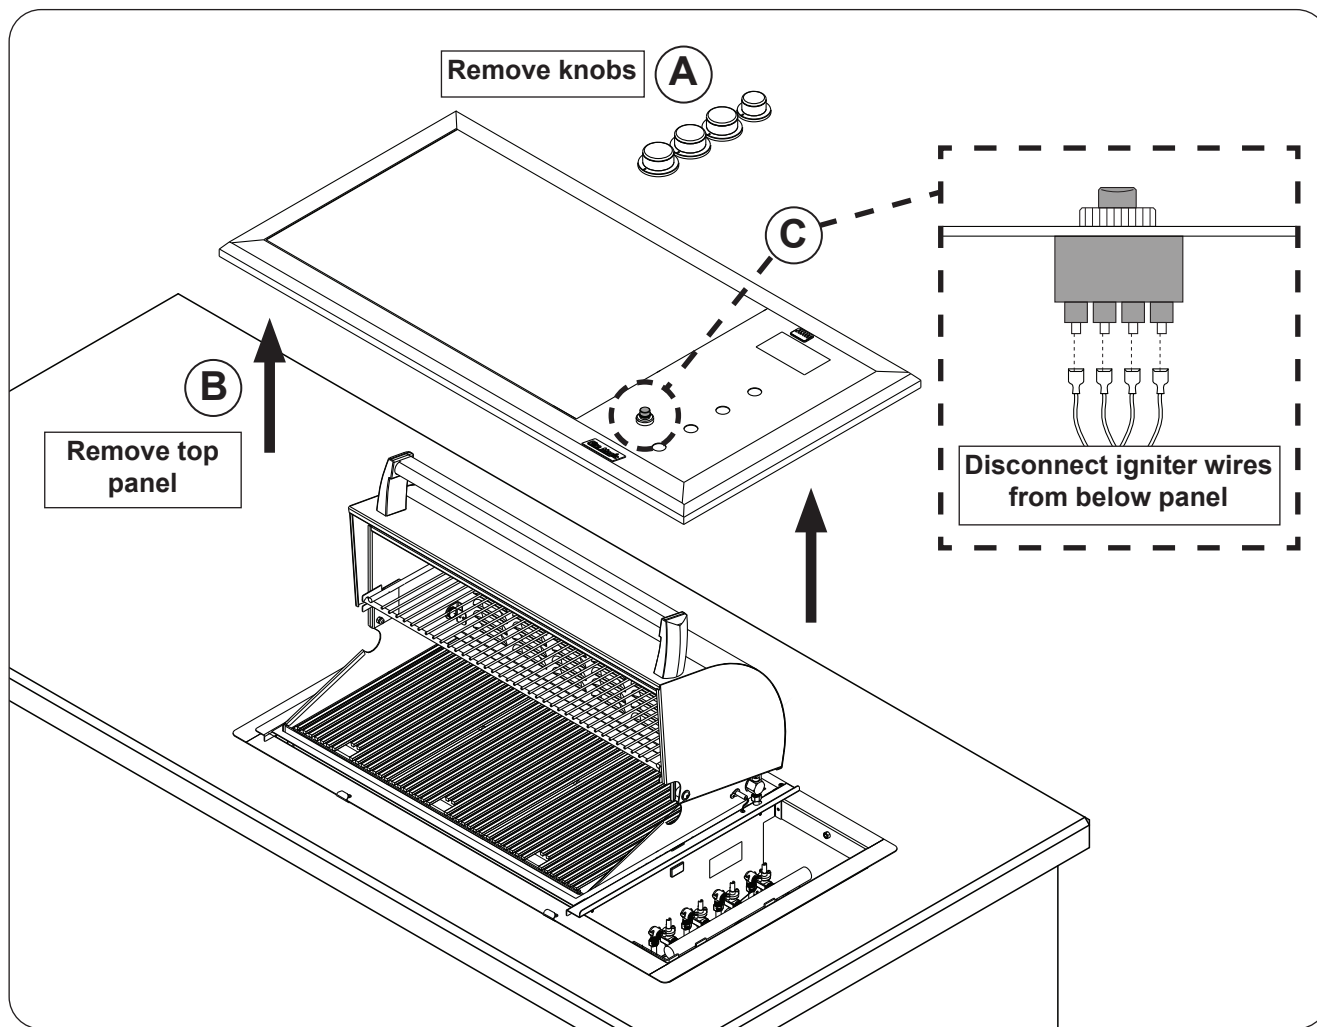

Fig. 35-1 Top panel removal
2. Pull the control knobs from their stems and set them aside (see Fig. 35-1, A).
3. Carefully, but firmly, detach the top panel from the frame (see Fig. 35-1, B).
4. While lifting the top panel, carefully disconnect the igniter wires from underneath the top panel to completely free the panel from the grill (see Fig. 35-1, C).